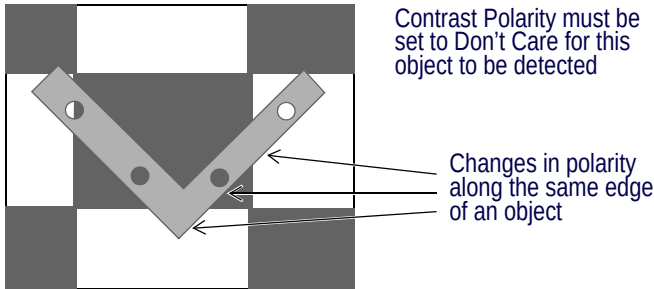

Figure 161 Contrast Polarity - Local Reversals in Polarity
- When **Don't Care** is selected, the Locator will be robust to complete contrast reversal as well as to local contrast reversal, on sections of the object contour, such as shown in the “checkerboard background” example in Figure 161.